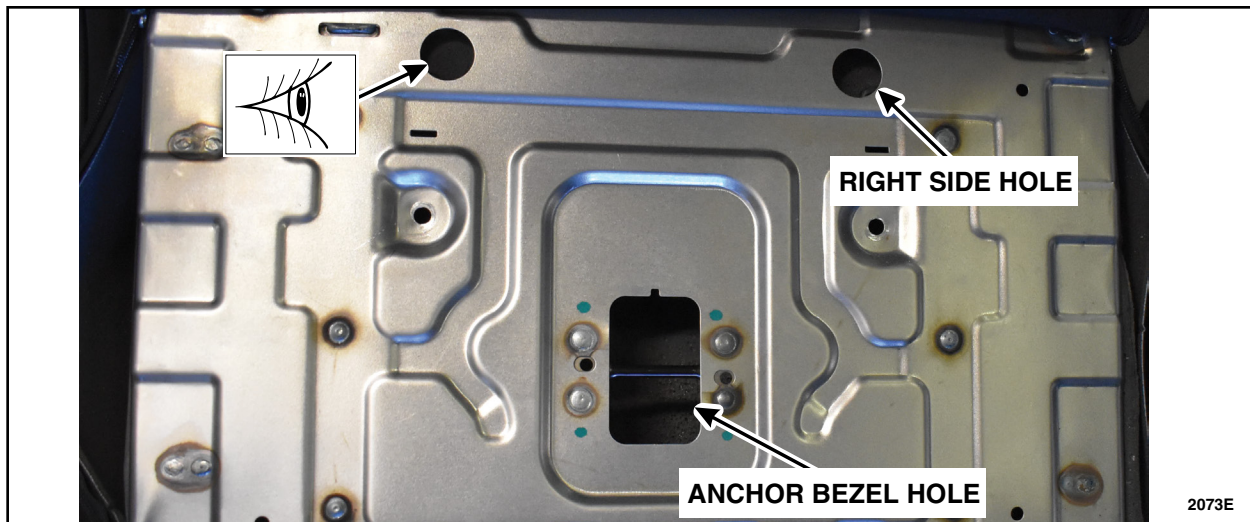

FIGURE 5
5. Shine a flashlight inside of the right side hole or the anchor bezel hole while viewing the two welds on the head rest bracket from the left side hole. See Figure 5.